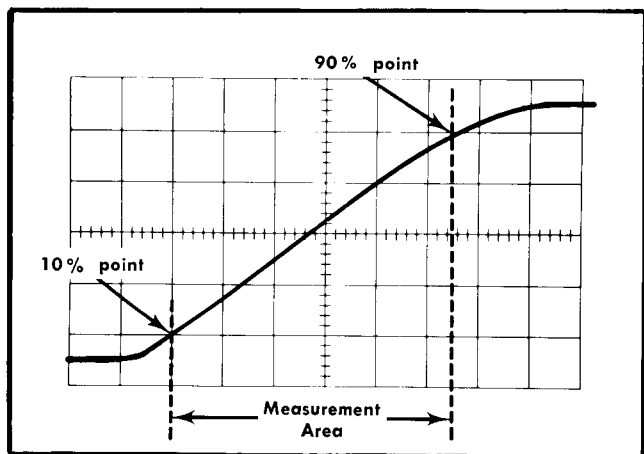

Fig. 2-6. Measuring the risetime of a waveform.
3. Center the display about the center horizontal line. With five centimeters of vertical deflection, the 10% and 90% points on the waveform are two centimeters below and two centimeters above the center horizontal line (see Fig. 2-6).
5. Adjust the horizontal position control to center the measurement area on the CRT with the 10% point intersecting a vertical graticule line as in Fig. 2-6.
Example. Assume that the horizontal distance between the 10% and 90% points is 5.5 centimeters (see Fig. 2-6) and the MAGNIFIER switch is set to 10 nSEC. Using the formula: